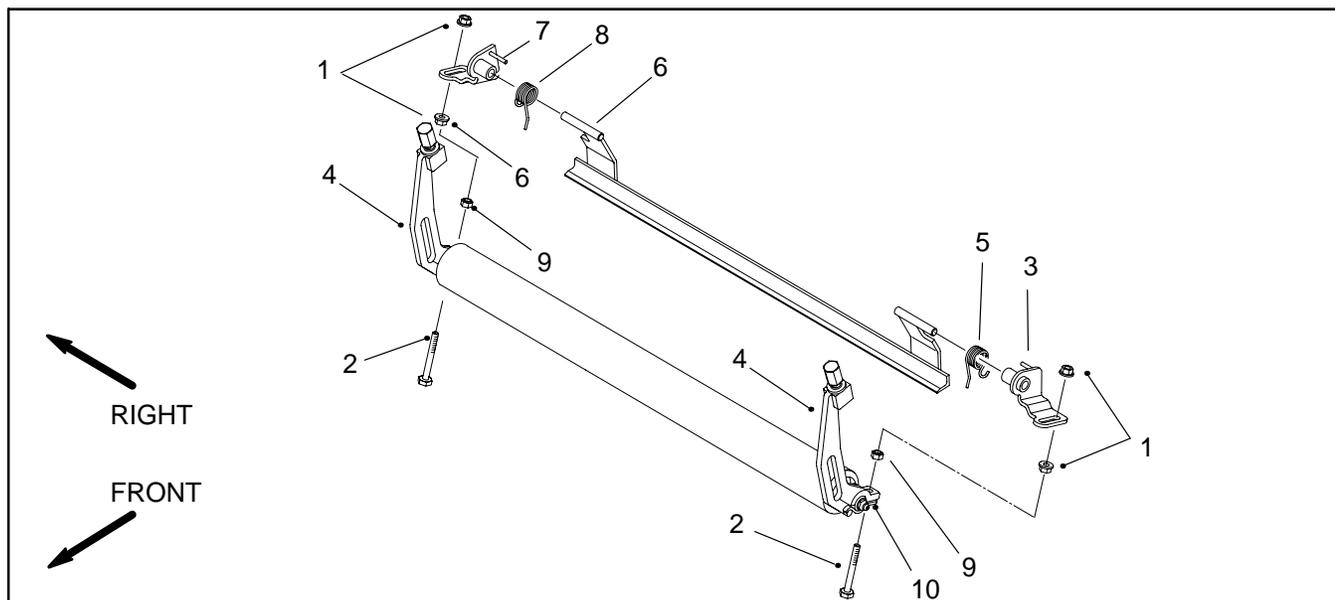

Figure 61
2. Insert a 8mm hex head screw through holes in height-of-cut tab and H-O-C adjustment bracket and secure with a locknut (Fig 61).
4. Insert bracket (LH) onto the hex head screw on left H-O-C adjustment bracket; loosely secure with a flange head nut.
5. Slide torsion spring (LH) with hook outward onto bracket (LH) and position hook around bracket (LH).
6. Insert left end of scraper into the hole in the bracket (LH). Place end of torsion spring (LH) behind scraper.
7. Repeat procedure on right end of scraper while loosely securing bracket (RH) to hex head screw on the right H-O-C adjustment bracket.